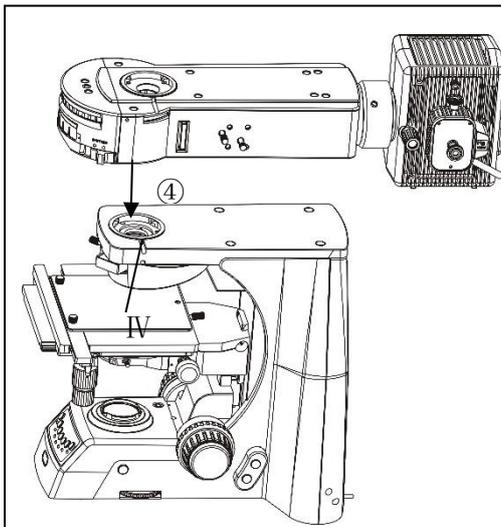

Fig.5
Insert the slit into the dovetail groove of the microscope as shown by Num③ in figure 5 and push it to the bottom, then tighten the screw of III with universal wrench to fasten.
**4-2-4 Metallographic device installation (Fig.5)**
The metallographic device shall be inserted into the head of the microscope body in accordance with the serial number in figure 5 and transferred to the appropriate position, then tighten the screw with hexagon wrench to fasten.